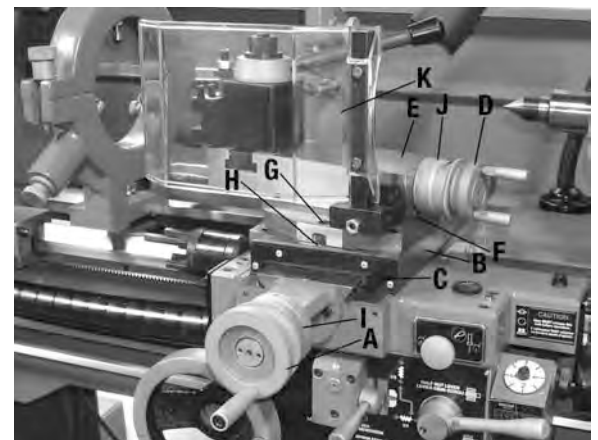

FIGURE 11
During all operations, the tool post safety guard (K) Fig.11 must be in the closed position as shown in order to protect user.
The cross slide handwheel (A) Fig.11 is used to feed the cross slide (B), top slide and tool post with cutting tool towards the workpiece. After time the cross slide gib may become loose or too tight and an adjustment may be necessary. To adjust the gib, tighten or loosen the flat head bolt (C) until the cross slide moves freely without play.
The cross and top slides come with imperial and metric dials (I & J) Fig.11. Simply turn the dials 180 degrees to switch from metric to imperial or vice versa.